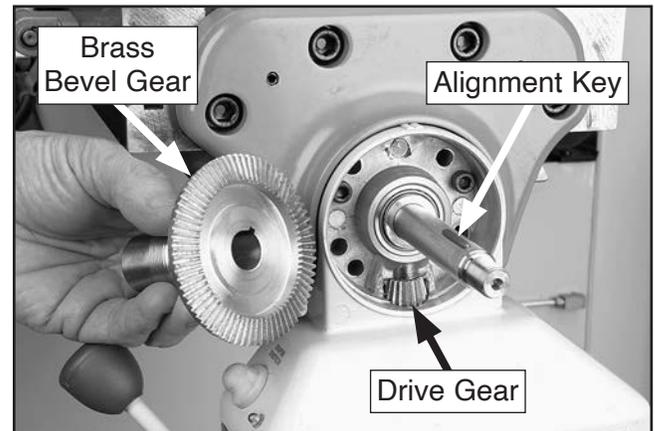

Figure 46. Example of power feed gears.
4. Remove brass bevel gear from leadscrew, then remove leadscrew alignment key (see **Figure 46**).